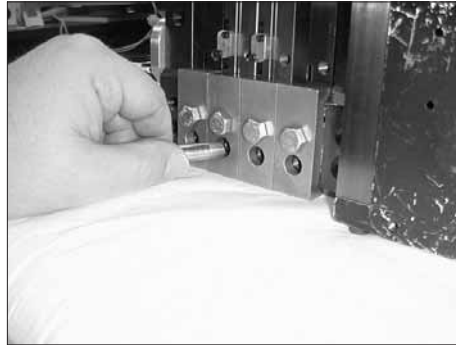

Figure 7-43 Removing a temperature sensor thermowell
3. See Figure 7-43. Using a large screwdriver, loosen and then remove the temperature sensor thermowell(s) from the applicator.